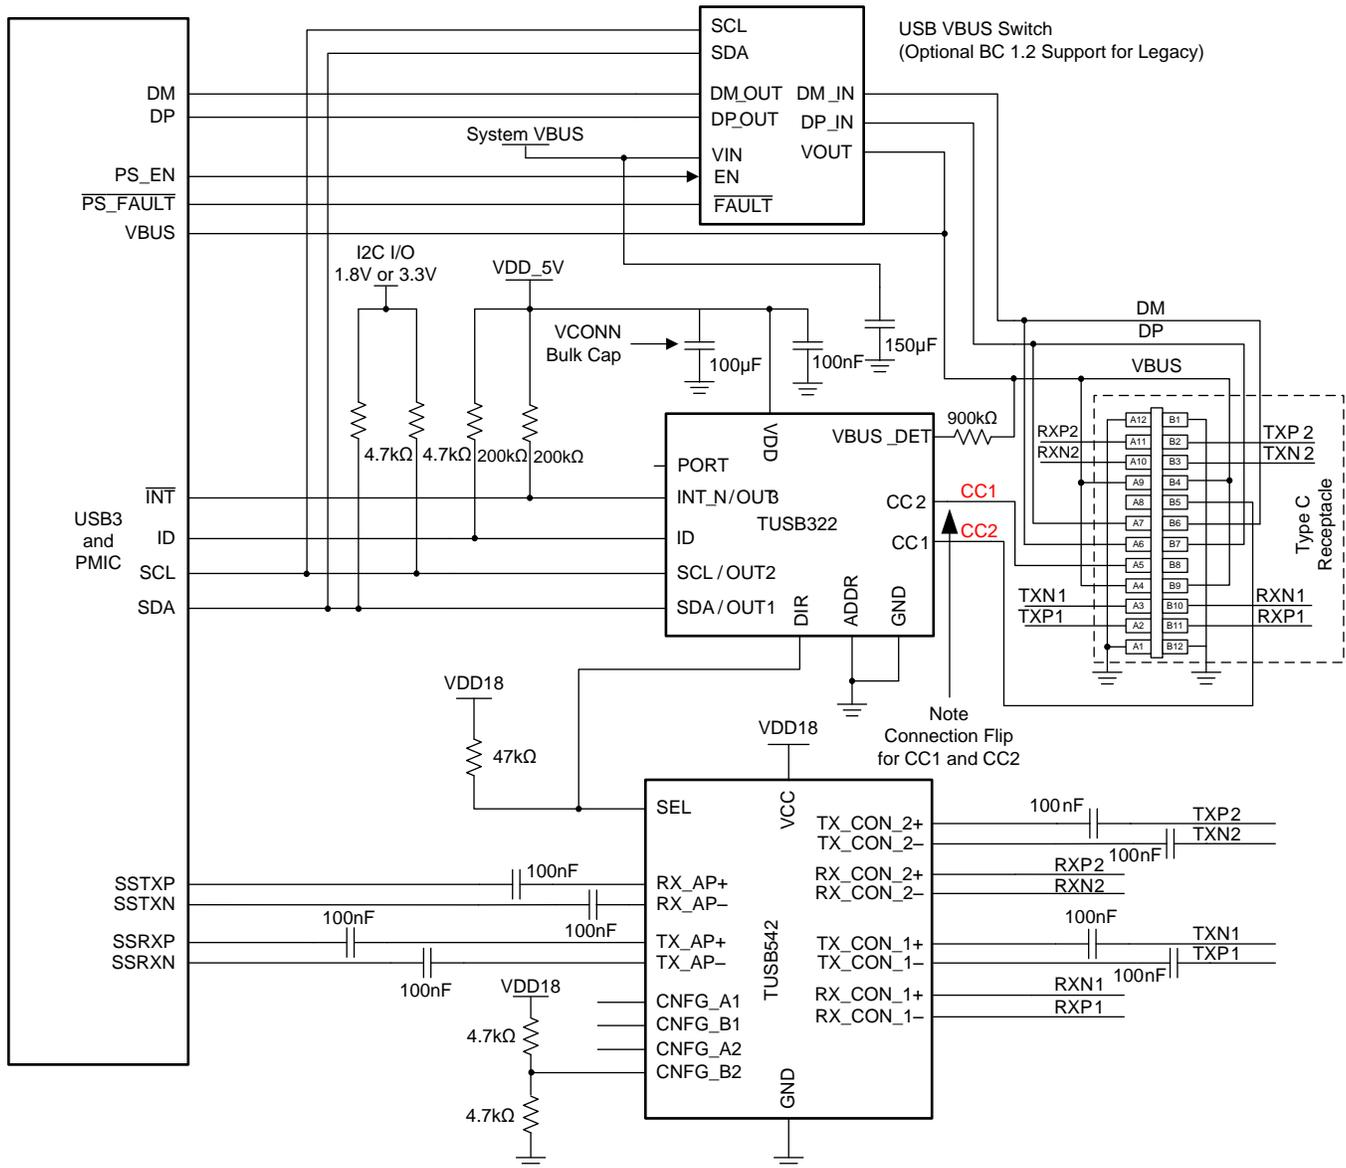

Figure 16. USB-C DRP Implementation Using TUSB542 and TUSB322/TUSB321
Figure 16 shows an example implementation of a USB Type-C DRP port using TUSB542. Texas Instruments TUSB322 is shown here as channel configuration (CC) controller. Note connections for CNFG pins of TUSB542 is example only. The connection of the CNFG pins is application dependent; refer to the Table 2, where the user can find the available settings.